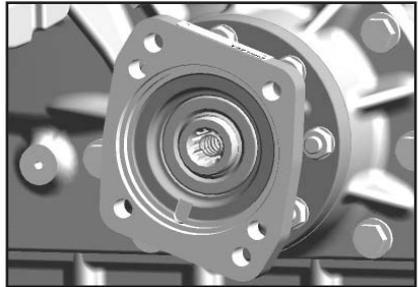

Fig. 11
- f. Mount P.T.O. housing to transmission as shown in **Fig. 11**.